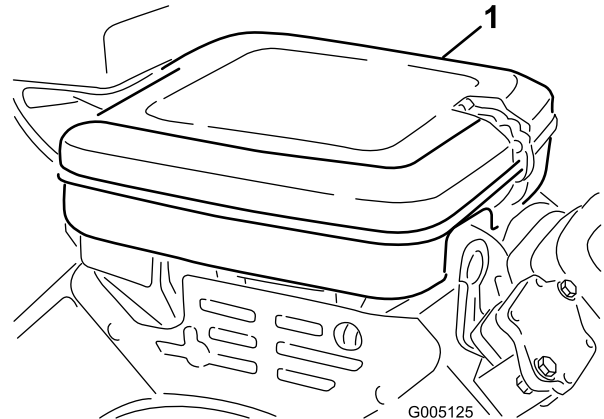

Figure 40
1. Clean the cover thoroughly (Figure 40).
3. Remove the wing nut securing the elements to the air-cleaner body (Figure 40).